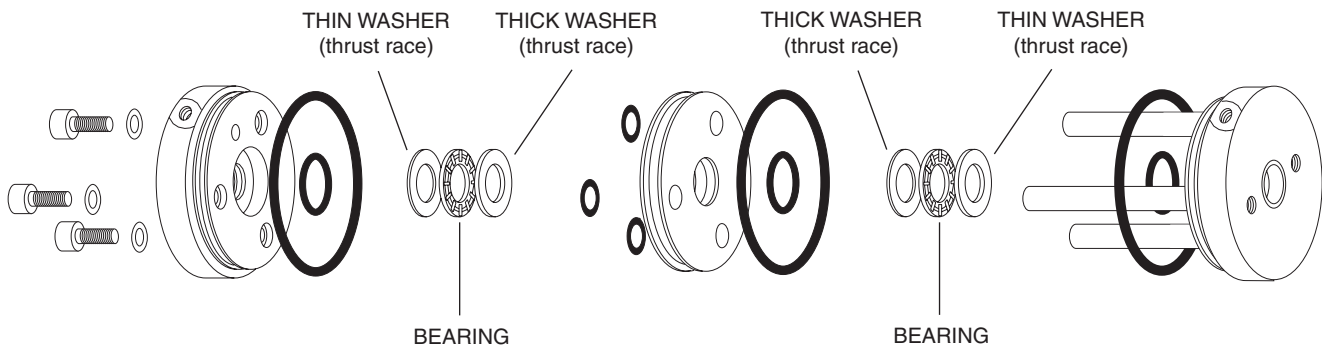
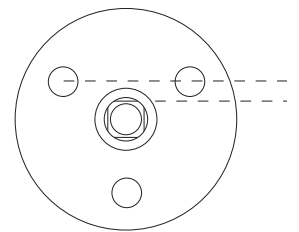

Figure 6: O-ring locations
Figure 8:
3. Place the thrust race washers and bearing in the male end cap. (The thin washer goes in first, as in **Figure 6**.) One of the flats on the drive shaft will line up with a line drawn between two of the holes in the O-ring plate, as shown in **Figure 8**. Slide the subassembly onto the pins of the male end cap with this flat lined up with the air inlet on the end cap.
5. Place the thrust race washers and bearing in the female end cap. (The thin washer goes in first, as in **Figure 6**.) Press the end cap into the cylinder, making sure that the air inlet hole is in the same orientation as the one in the male end cap.